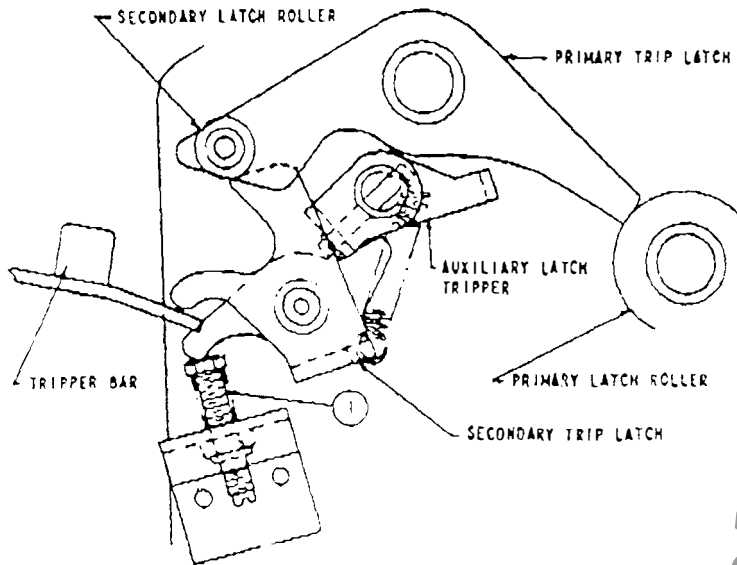

Fig. 5 — Primary Trip Latch Adjustment
Figure 5 shows the arrangement necessary for the breaker to be in the closed position. The spring holds the secondary trip latch down against screw (1). The secondary trip latch holds the secondary latch roller up, which in turn holds the opposite end of the primary trip latch down. This prevents the primary latch roller from moving to the left and opening the breaker. If none of the various trip devices are acting on the tripper bar or the auxiliary latch tripper to open the breaker or to prevent the breaker from closing and the breaker still will not close, then the following adjustment should be made.
- Turn screw (1) down to insure that secondary trip latch will hold the secondary latch roller up
- With the breaker closed, turn up on screw (1) until the breaker trips
- Turn screw (1) down two turns.